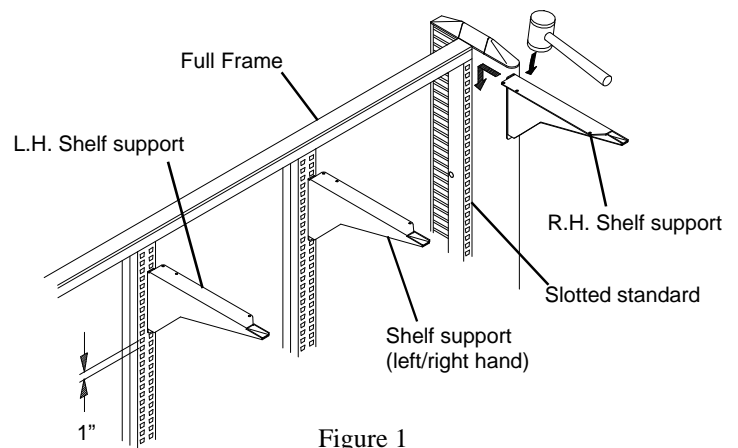

Figure 1
1. Determine the location of the **Shelf**. Position the Shelf Supports as shown in **Figure 1**. Insert the hooks on the back of the supports into the slotted standards and push down.